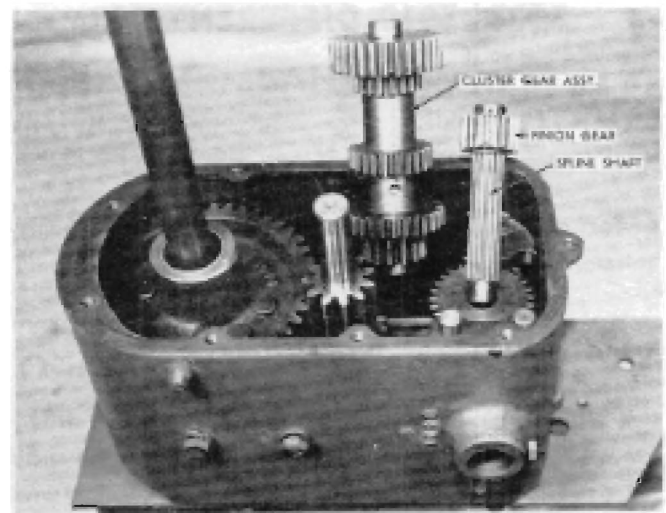

FIGURE 12
14. Install the cluster gear assembly. See Figure 12.